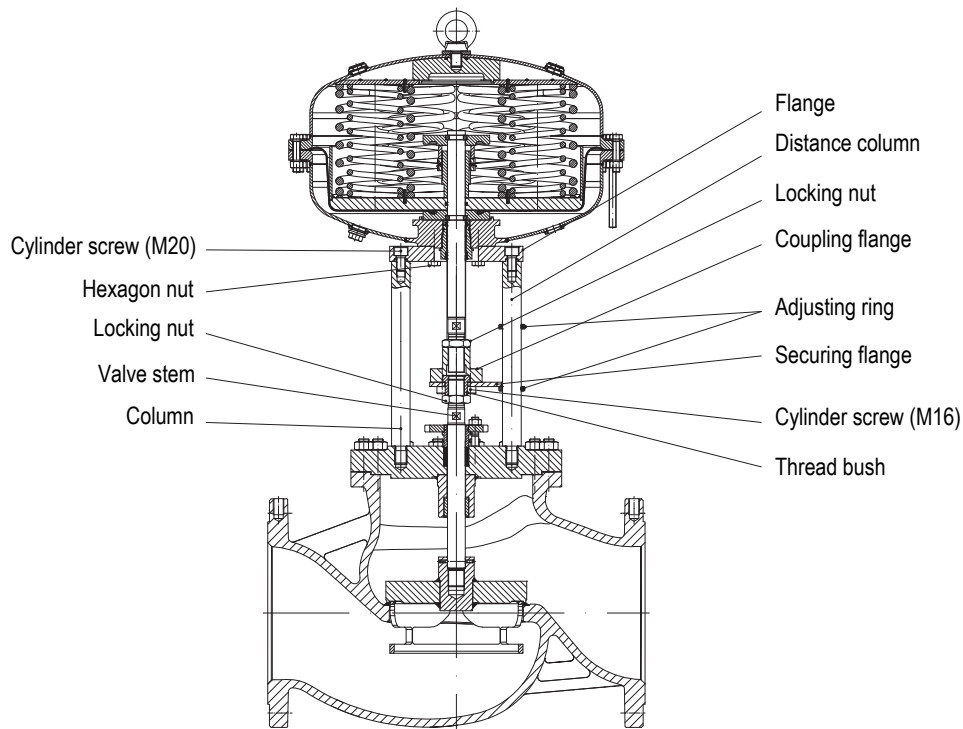

Fig. 6: Pneumatic straight through control valve
Straightway valves will be closed by spring force on air failure (Fig. 6).
- Loosen cylinder screws (Fig. 6).
- Remove hexagon nuts (Fig. 6) and take of the actuator from the valve.